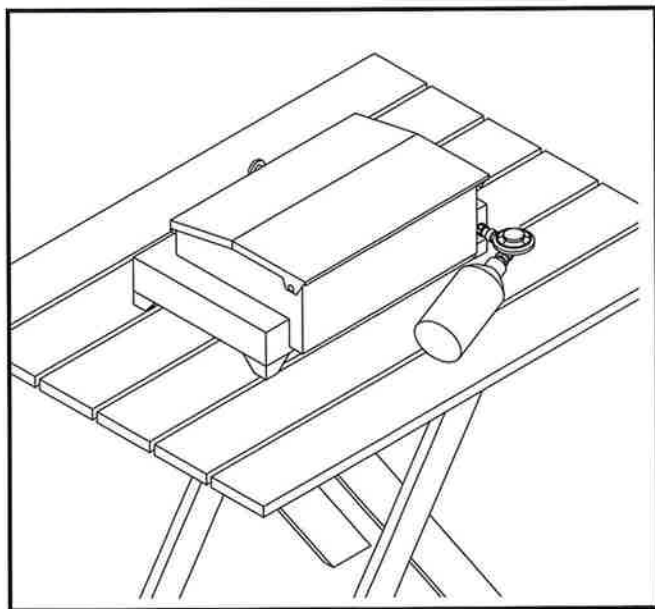

Figure 3 Disposable Canister Location
CAUTION: WHEN ATTACHED, THE TOP OF THE 16.4 OZ. DISPOSABLE CYLINDER MUST BE ATTACHED TO THE REGULATOR AND THE BOTTOM OF THE CYLINDER MUST REST ON THE SURFACE SUPPORTING THE APPLIANCE. WHEN PROPERLY INSTALLED, THE CYLINDER SHOULD REST AT AN APPROXIMATE ANGLE OF 45° FROM AN UPRIGHT POSITION ON THE SURFACE SUPPORTING THE APPLIANCE (SEE FIGURE 3, PAGE 6) OR POSITIONED SO THE CYLINDER HANGS STRAIGHT DOWN OVER THE EDGE OF THE SURFACE SUPPORTING THE APPLIANCE. THIS WILL INSURE PROPER VAPOR WITHDRAWAL.
7. **CAUTION:** When installed, the top of the 16.4 oz. disposable LP Cylinder must be attached to the Regulator and the bottom of the cylinder must rest on the surface supporting the appliance. When properly installed, the cylinder should rest on the surface at an approximate angle of 45° (See Figure 3, Page 6) or should hang fully upright over the surface supporting the appliance. This will ensure proper vapor withdrawal.